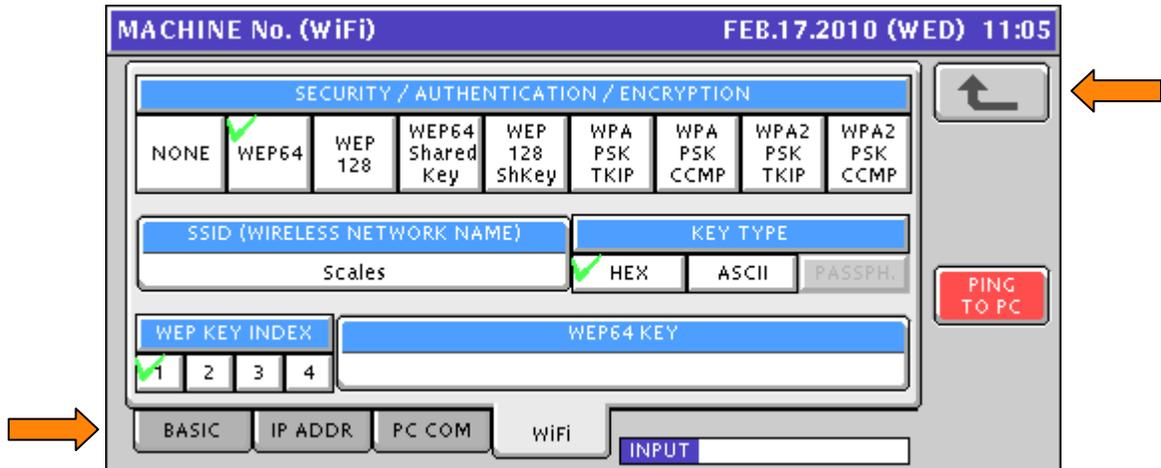

Figure 10.4. Uni-7 Navigation Tabs
5. Tabs are used within menu steps with multiple pages. See Figure 10.4.